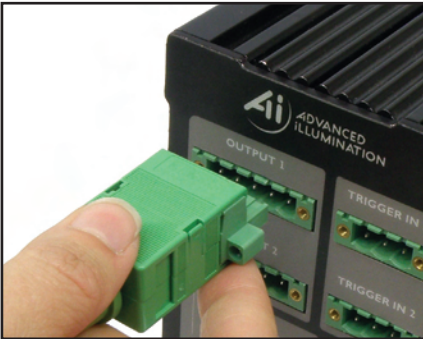

Figure 3: Pulsar 320 Light Head Output Connection
1.2 Light Head: Figure 3 shows how the output connectors on the front panel of the Pulsar 320 mates with the light head connectors. Plug the connector(s) from the light head(s) into the 5 pin socket in the front of the Pulsar 320 as shown in Figure 3.